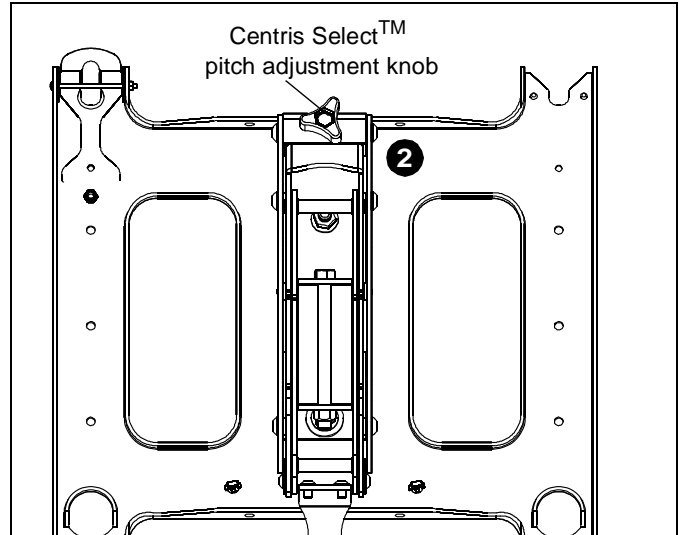

Figure 7
2. If required, adjust the Centris Select™ knob right or left until desired pitch tension is obtained. (See Figure 7)